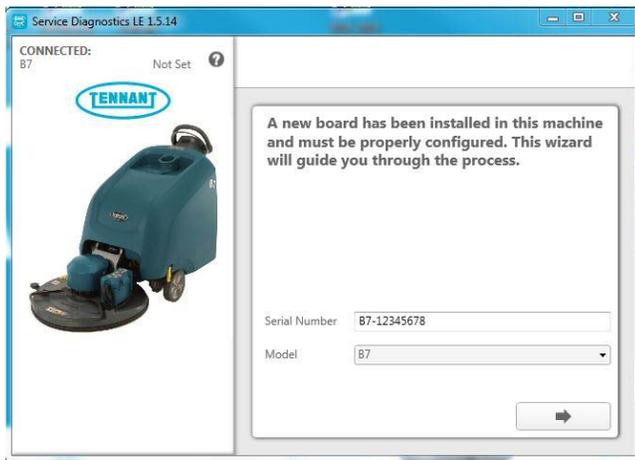

Fig. 5
- The following screen will appear when the application software is connected to machine (Figure 5). Enter the machine serial number from the label on machine (ex. B7- 12345678). Select the appropriate model from the drop-down menu. Press the arrow button to advance to next screen.